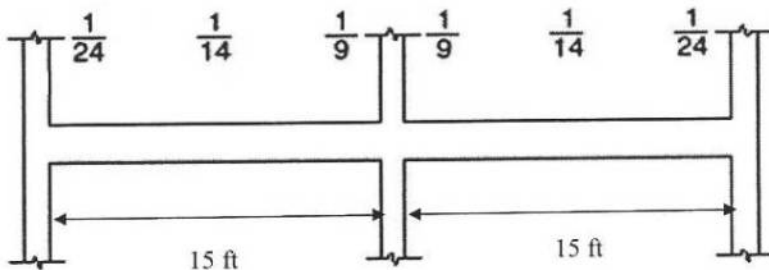

Fig 9
8. A reinforced concrete one way slab is built integrally with its supports and consists of two equal spans. The slab panels are continuous in one direction and each panel has a clear span of 15 ft (Fig 9). The service live load is 120 psf and 4000 psi concrete is specified for use with steel with a yield stress equal to 60000 psi. Design the slab and show the reinforcement detailing. Note, this slab is okay for serviceability. Use, ACI moment co-efficient (shown on the top of the longitudinal slab sections). (10)